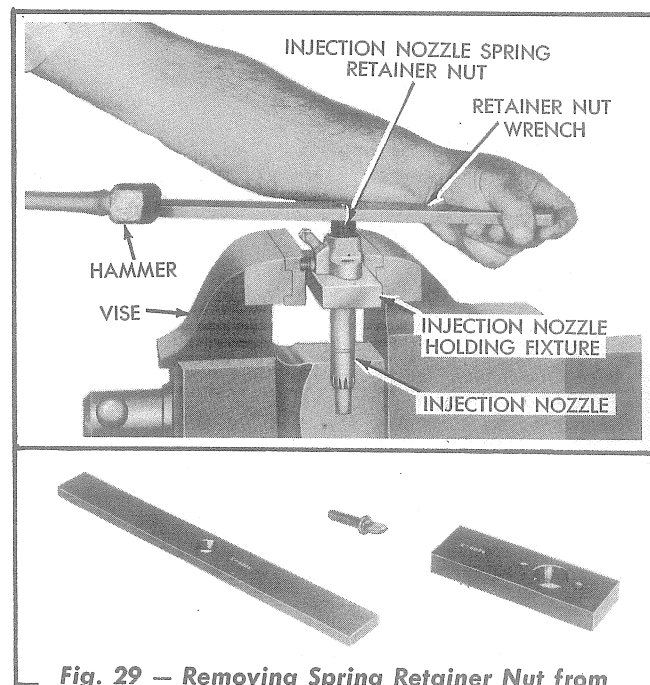

Fig. 29 — Removing Spring Retainer Nut from Fuel Injection Nozzle (Tractors Prior to Serial No. 4001)
- b. On nozzles used in tractors prior to Serial No. 4001, place the nozzle in position in an injection nozzle holding fixture, similar to the one shown in Fig. 29, then clamp the holding fixture in a vise. On nozzles used in tractors Serial No. 4001 and above, clamp the nozzle in a vise having copper jaws or similar protective material.
- b. On fuel injection nozzles used in tractors prior to Serial No. 4001, remove the spring retainer nut using an injection nozzle spring retainer nut wrench and an injection nozzle holding fixture similar to those shown in Fig. 29. On nozzles used in tractors Serial No. 4001 and above, the spring retainer nut may be removed by clamping the nozzle in a vise, and removing the nut using a suitable socket or box wrench. Remove the spindle spring and the spindle from the holder body.